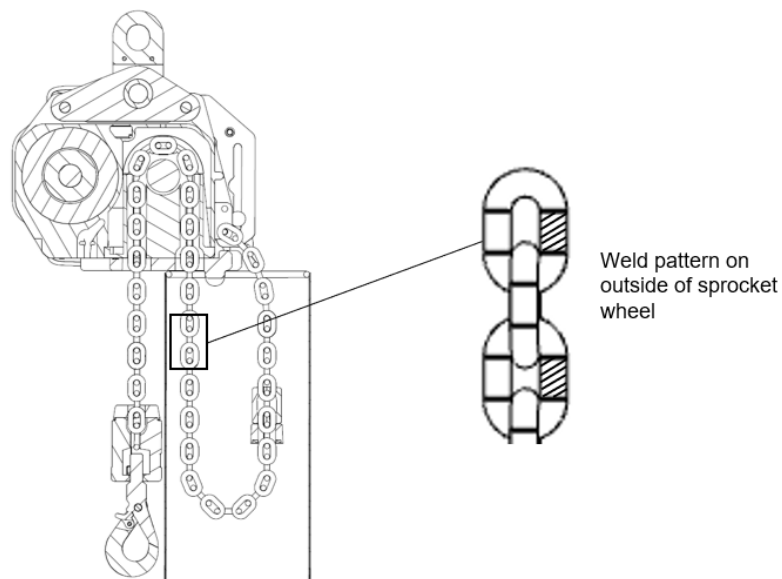

Figure 24. Chain link weld pattern position
**Important:** the new load chain must be installed with the weld pattern on the outside of the sprocket wheel as shown in Figure 24.
**Important: the new load chain must be installed with the weld pattern on the outside of the sprocket wheel as shown in Figure 24.**